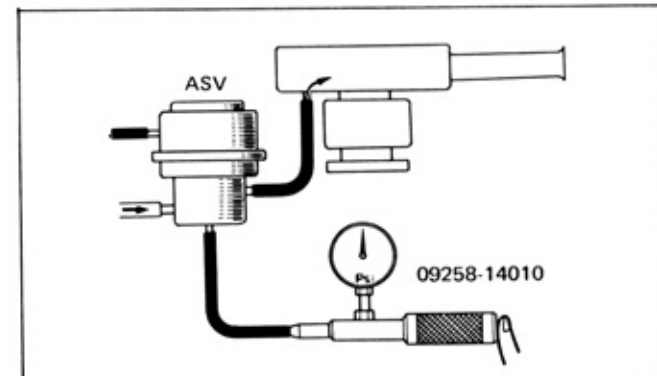

Fig. 8-16 Relief valve opening pressure measurement
- As shown in Fig. 8-16, disconnect the hose between the ASV and check valve at the check valve end and connect the SST [09258-14010]